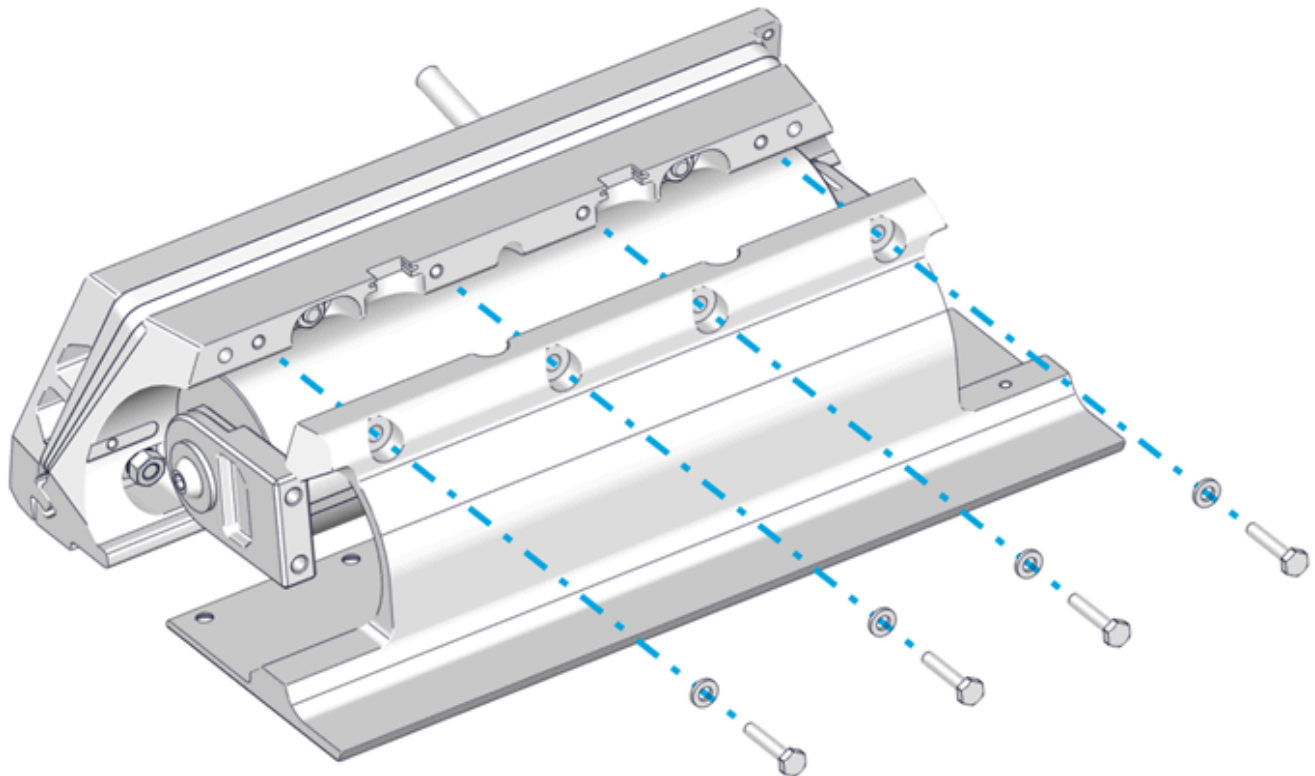

Figure 66 – Seal Plate Top Screw Installation
5. Apply thread locker and thread in the top four (4) M6-1.0 x 30 mm Hex Head Bolts with M6 Washers to align the Seal Plate with the Wedge Pack Assembly, but **do not tighten**. There should be a small gap (about 2 mm) between the top of the Seal Plate and the Actuator Plate. (Quantity six [6] for Dual Controller systems) See Figure 66 – Seal Plate Top Screw Installation.